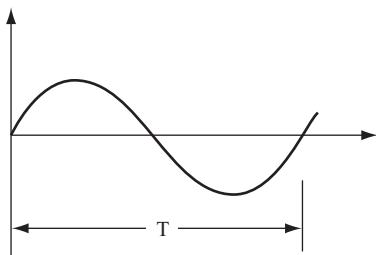

FIGURE 5.4
- 7 There is a primary time measurement for sine waves. The duration of the complete sine wave is shown in Figure 5.4 and referred to as a *cycle*. All other time measurements are fractions or multiples of a cycle.